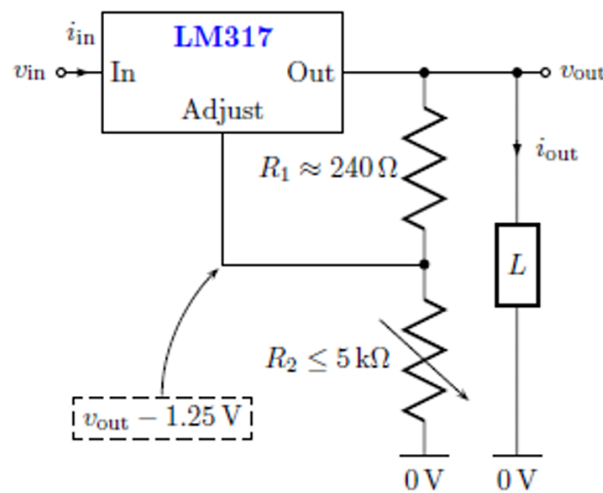

Figure 5: Using variable resistor divider
5. Replace the Zener circuit with the SPICE model for an IC317 regulator (Figure 5.). Repeat the